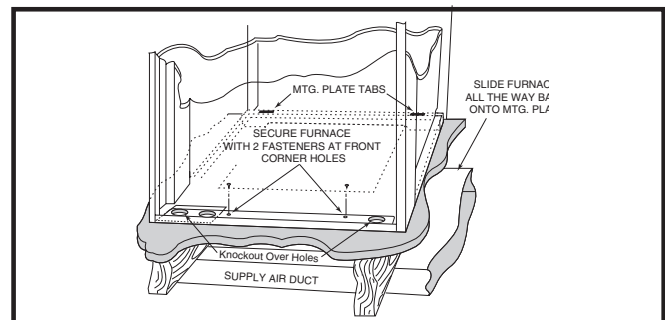
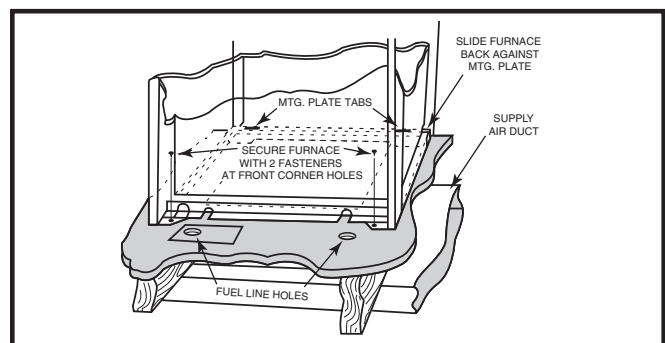

Figure 15. "A" & "B" Cabinet Furnaces
Figure 16. "A" Cabinet Furnace on Coil Cabinet
Sides and back of the furnace may be enclosed by wall framing such as in a closet or alcove. The dimensions of the room or alcove must be able to accommodate the overall size of the furnace shown in Figure 4 \(page 5\) and the installation clearances outlined on page 4. The furnace shall be appropriately connected to the supply distribution system as shown in Figure 15 \(page 9\) & Figure 16 \(page 9\).
4. Secure front with one (1) fastener at each corner. See Figure 15 & Figure 16.